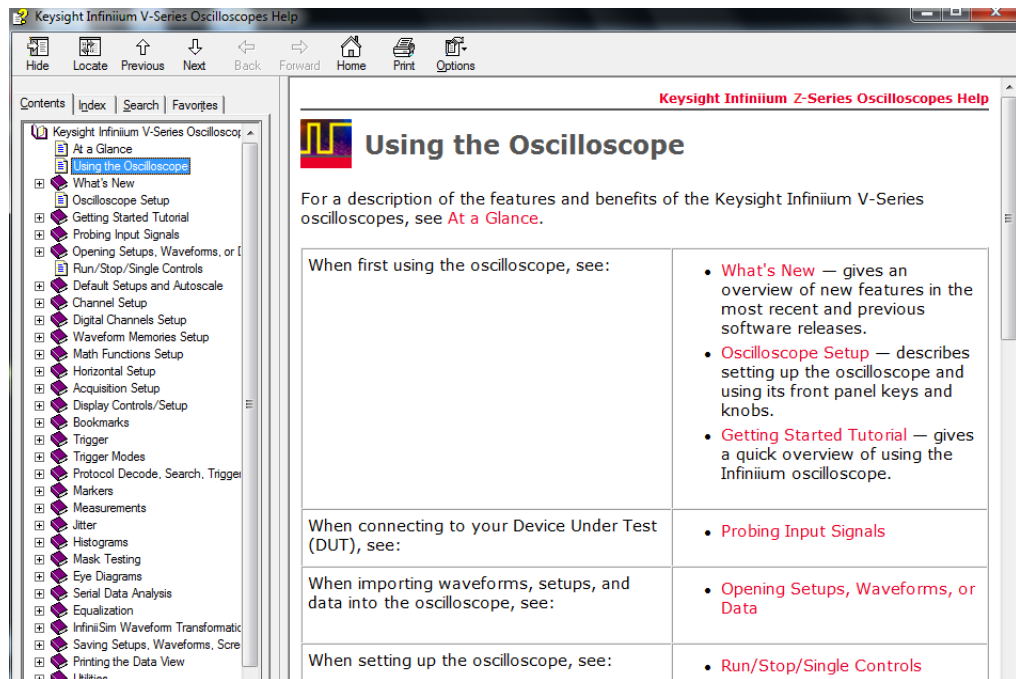

Figure 22 Online Help home page
- Choose **Help > Contents...** from the main menu to open the online help home page (Figure 22).